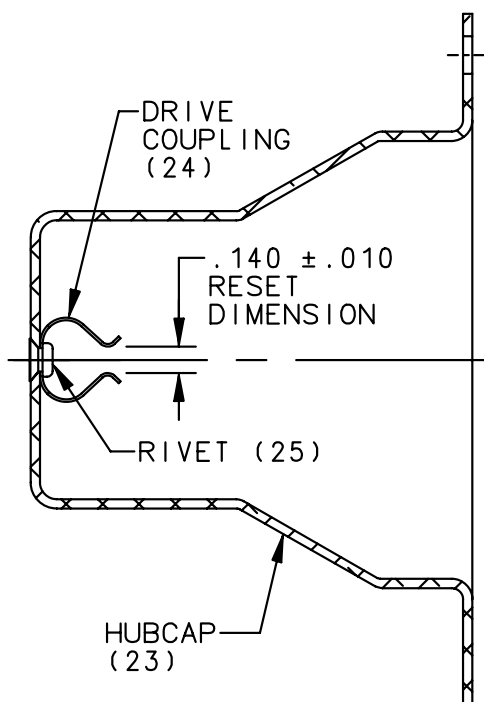

Figure 402
- F. Check self-locking nuts (12) for worn, stripped or crossed threads. Replace if any of the above damage exists. Check the nuts self-locking feature. Replace the nut when it can be run down with the fingers after the locking feature engages the bolt.
- G. Magnetic particle inspect or penetrant inspect the wheel tie bolts (9) for cracks, particularly in the areas near the bolt head radius and the threads. If any of the bolts have cracks, replace all of the bolts. See Page 401 for recommended penetrant and developer.
- I. Examine grease seals (14) for cuts, nicks, distortion, and other damage. Check the integrity of the rubber-to-metal interface. Replace seals that have any of these defects.
- J. Inspect the drive coupling (24) of the hubcap assembly (22) for looseness. If necessary, replace rivets (25) per REPAIR. Replace drive coupling if bent, cracked or showing other obvious signs of damage. Check reset dimension of drive coupling as shown in Figure 402. Replace drive coupling if reset dimension cannot be maintained.